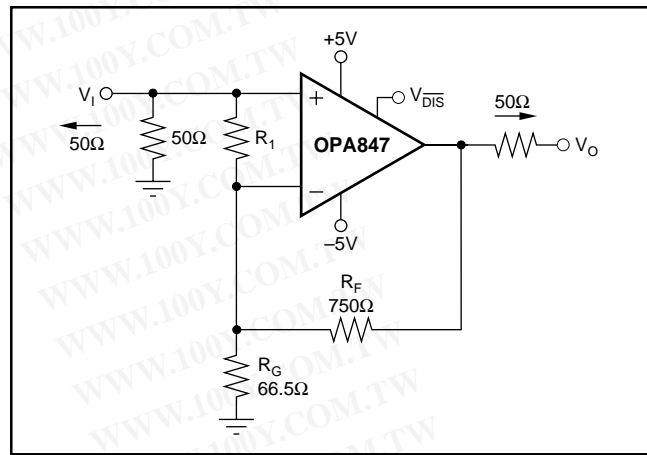
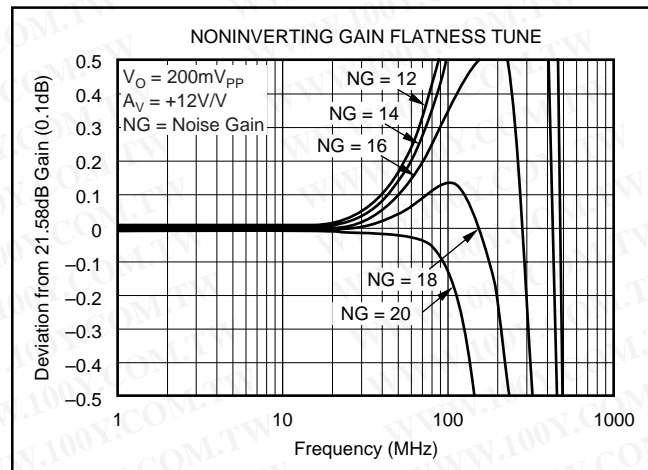

FIGURE 8. Low Noninverting Gain Flatness Trim.
FIGURE 9. Frequency Response Flatness with External Tuning Resistor.
Figure 8 shows a resistor-based compensation technique that allows the flatness at low noninverting signal gains to be controlled separately from the signal gain. This approach retains the full slew rate to the output but gives up some of the low-noise benefit of the OPA847. Including the effect of the total source impedance (25 Ω in Figure 8), tuning resistor R_1 can be set using Equation 8.
A_V = desired signal gain (+12V/V in Figure 8)
NG = target noise gain (adjusted in Figure 9)
The effect of this noninverting gain flatness tune is shown in Figure 9. At an NG of 12, R_1 is removed and only R_F and R_G are present in Figure 8. The peaking is typically 4.5dB, as shown in the small-signal frequency response curves at this setting. As R_1 is decreased, the operating noise gain (NG) increases, reducing the peaking and bandwidth until the nominal design point of +20 noise gain gives a non-peaked response.